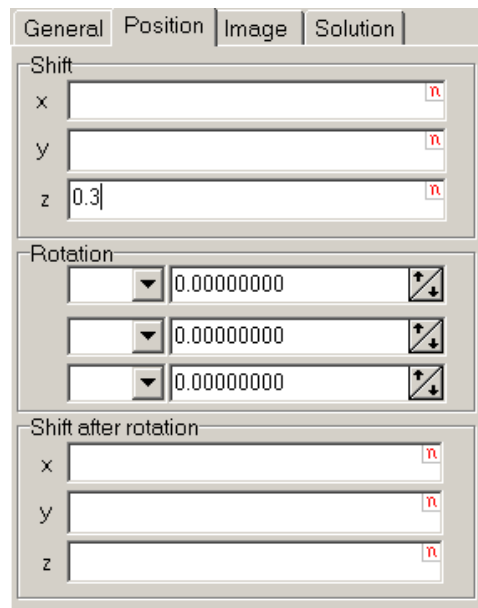

Figure 1.7.
The **Position** tab (see Figure 1.7) is used for setting position and orientation of the elastic body. These transformations influence on the representation of the elastic body in the animation window of the wizard. Flexible body in the starting position coincides with X-axis that is not really comfortable to watch. Now we will shift the beam along Z axis with 0.3 m.
5. Set Shift | z to 0.3, see Figure 1.7.